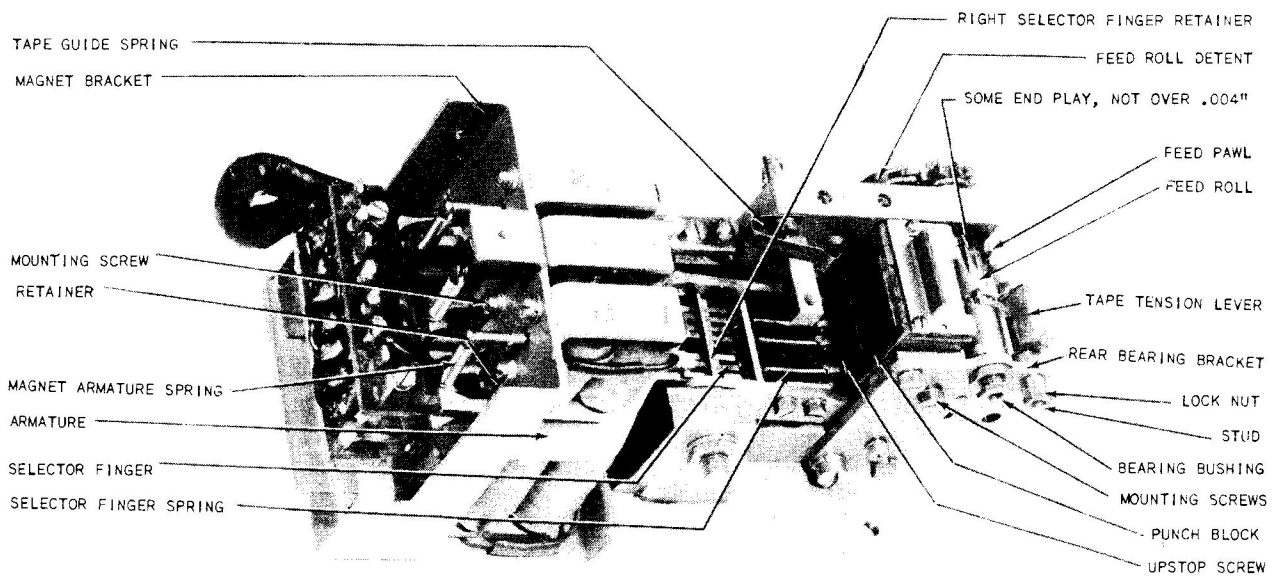
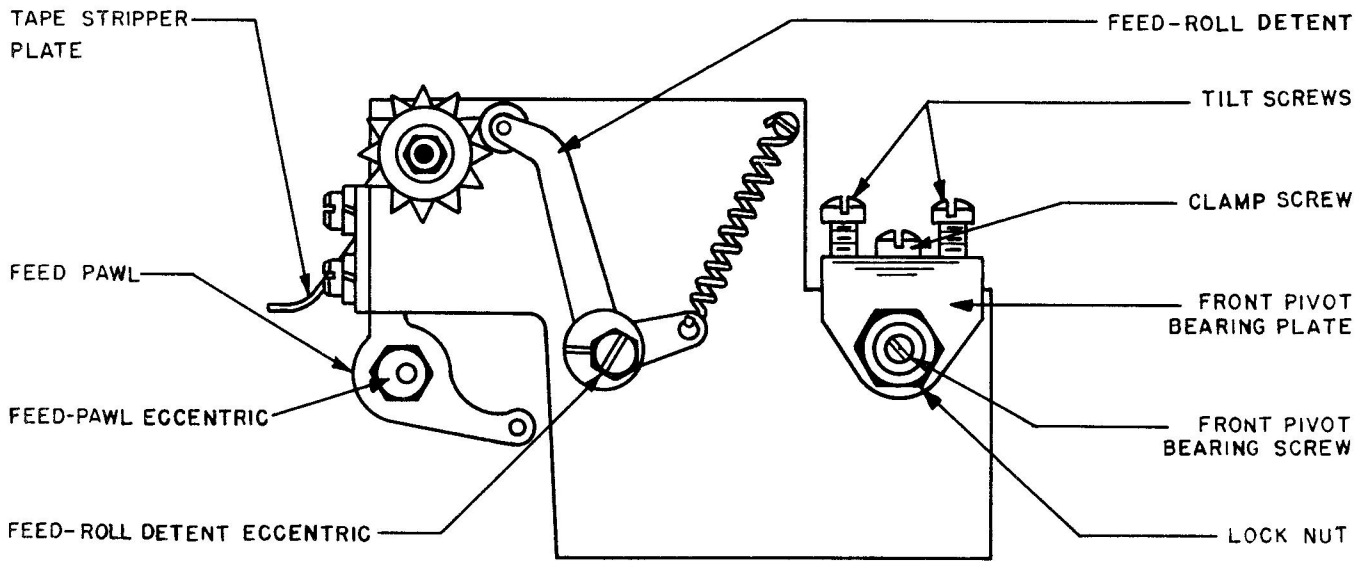

FIGURE 3
FIGURE 5
(2) To adjust, loosen the front pivot bearing screw lock nut and position the front pivot bearing plate to a horizontal position (Figure 5). Check by eye. Loosen the rear pivot bearing screw lock nut (Figure 3) and position the bail, front to rear, by means of the two pivot bearing screws to meet the first requirement. Operate the punch bail by hand until the punch selector fingers almost touch the punches and position the front pivot bearing plate vertically by means of its three positioning screws to meet the second requirement. Then tighten the front and rear pivot bearing screw lock nuts.
c. FEED ROLL BEARINGS (FIGURE 3)
r. MAGNET ARMATURE RETAINER (FIGURE 3)
s. MAGNET ARMATURE SPRING TENSION (FIGURE 3)
v. TAPE GUIDE SPRING (FIGURE 3)